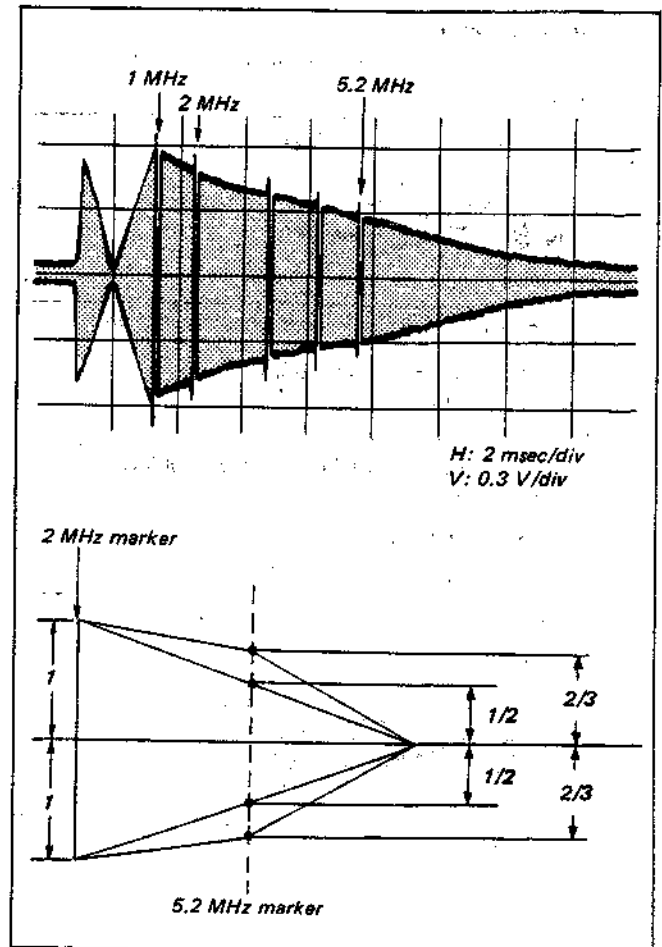

Fig. 5-16. Playback amplifier frequency characteristic adjustment.
- ii) Adjust RV503 to make the 2MHz amplitude of A and B channels equal. (See Fig. 5-16)